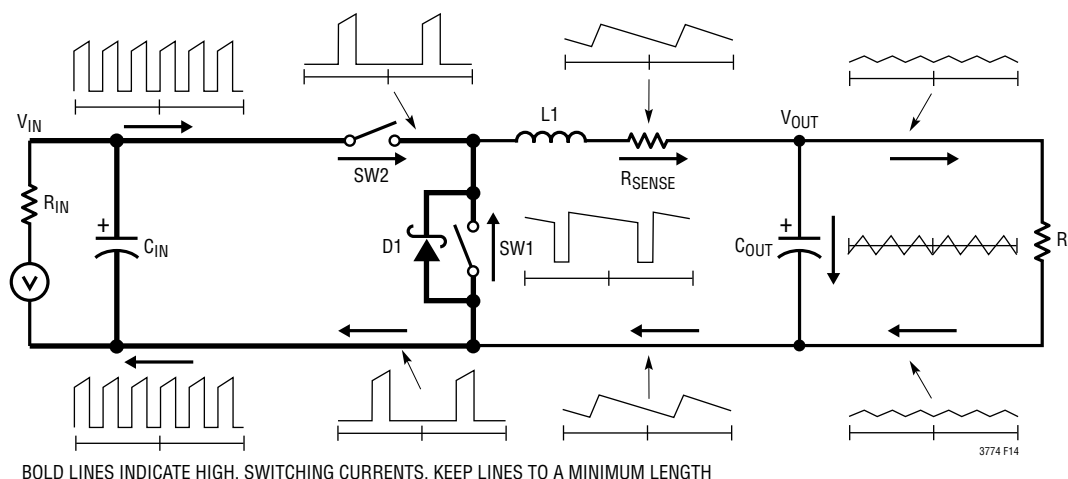

Figure 14. Branch Current Waveforms
When laying out the printed circuit board, the following checklist should be used to ensure proper operation of the IC. These items are also illustrated graphically in the layout diagram of Figure 14. Check the following in the PC layout:
- The 47pF to 330pF ceramic capacitor between the I_{TH} pin and signal ground should be placed as close as possible to the IC. Figure 14 illustrates all branch currents in a switching regulator. It becomes very clear after studying the current waveforms why it is critical to keep the high switching current paths to a small physical size. High electric and magnetic fields will radiate from these *loops* just as radio stations transmit signals. The output capacitor ground should return to the negative terminal of the input capacitor and not share a common ground path with any switched current paths. The left half of the circuit gives rise to the *noise* generated by a switching regulator. The ground terminations of the synchronous MOSFET and Schottky diode should return to the bottom plate(s) of the input capacitor(s) with a short isolated PC trace since very high switched currents are present. External OPTI-LOOP[®] compensation allows overcompensation for PC layouts which are not optimized but this is not the recommended design procedure.